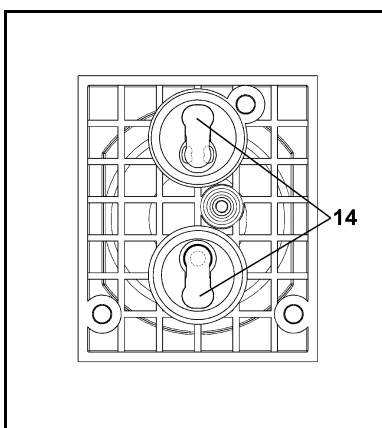

Fig. 9: Position of valve plates
**i** Upper and lower sides of the valve plates are identical. For correct position see fig. 9.